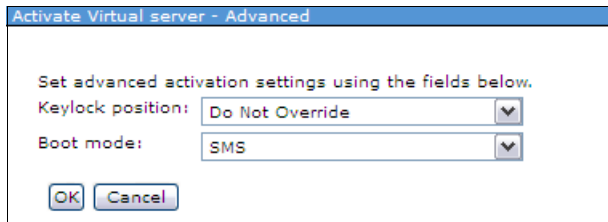

Figure 10-20 Activating the virtual server: Advanced properties
18. Set the Boot mode value to **SMS** mode, as shown in the Figure 10-20. Click **OK**.